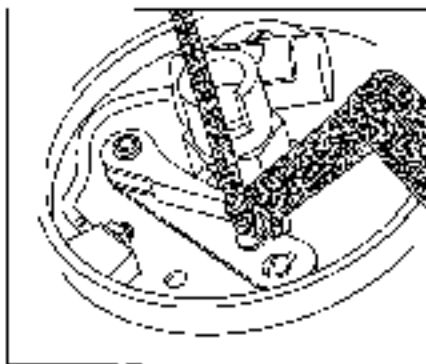

Figure 12-37:
There are three basic kinds of point-adjusting set-ups. Some cars have an *adjusting screw* (in addition to the screw or screws that hold the points in place). Other cars have an *adjusting slot*. Still others have a little *window* in the distributor cap that allows you to adjust the points without removing the distributor cap. Look at Figures 12-37, 12-38, and 12-39 to determine which one your vehicle has and then follow the appropriate set of steps:
If you have an *adjusting screw*, see Figure 12-37 and follow these steps:
4. Turn the adjusting screw (see Figure 12-37) until the feeler gauge blade can slip in and out between the contacts, just touching them as it slides.